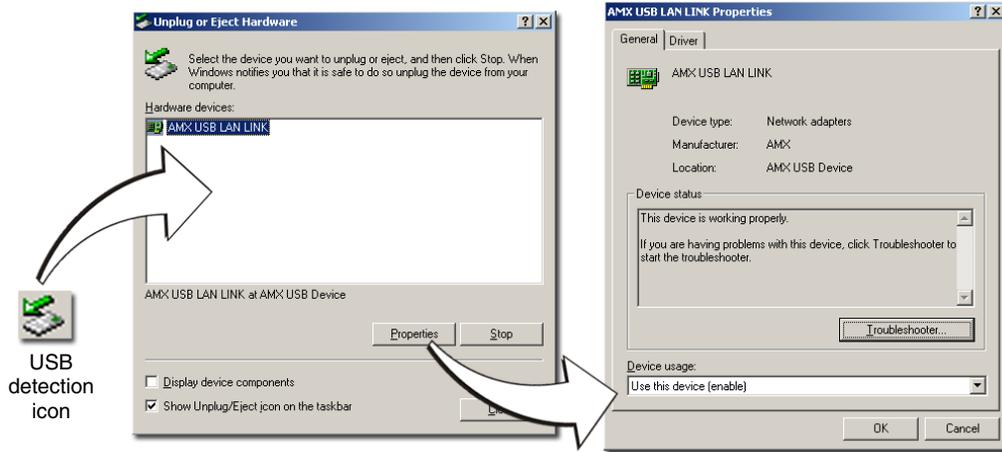

FIG. 53 USB Properties windows
3. Confirm that a new USB detection icon (FIG. 53) appears in the lower-right taskbar on the PC display window.